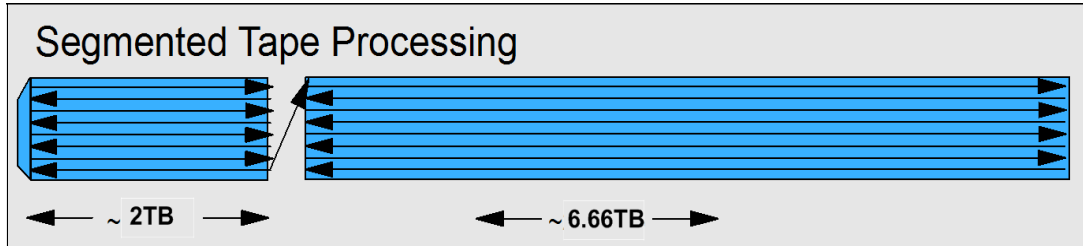

Figure 2-4 Segmented tape on 3592 E08 JD media
*Performance segmentation* provides fast access and capacity by allowing the tape to be divided into two segments. One segment is a fast access segment to be filled first, and the other segment has more capacity to be filled after the first segment. Therefore, it is high performance in two ways. It has segmentation and high-performance random access in the first segment, as though it was a scaled cartridge, while it provides other larger capacity, as shown in Figure 2-4.